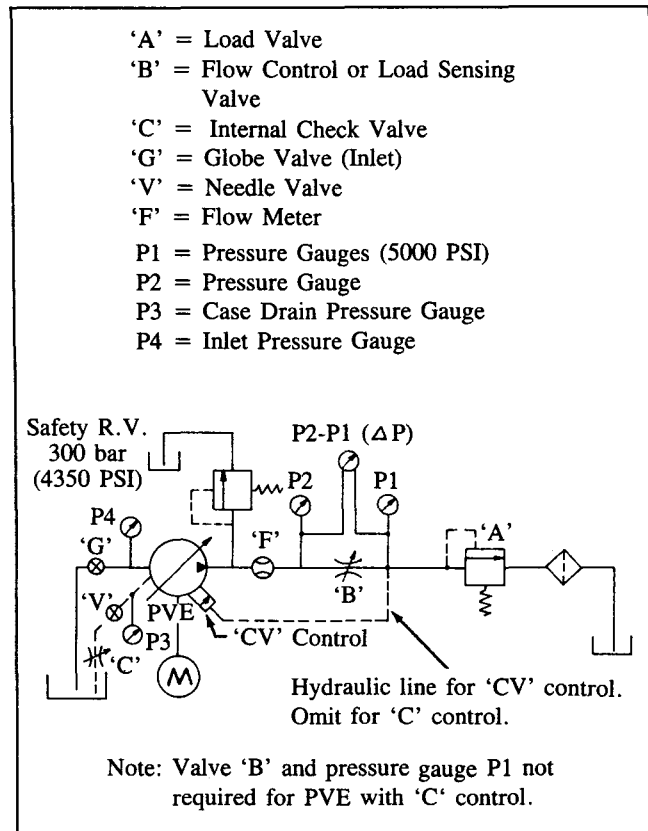

Figure 17. PVE Test Circuit
2. Connect the case line, inlet and outlet line, load sensing line (if required), pressure gauges, and other equipment as described in Figure 17. Make sure all connections are tight.
3. Remove drain plug (28) from valve block (33) and fill the pump with clean hydraulic fluid. Reinstall the plug and torque to value noted in Table 4.
Refer to Figure 17 during the following discussion.